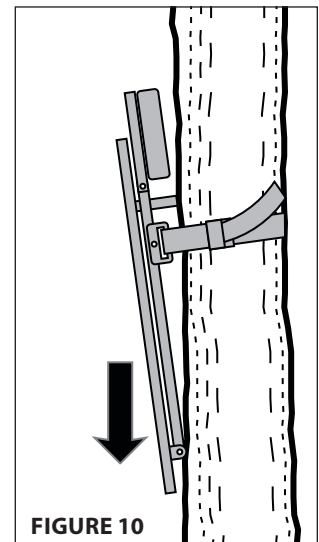

FIGURE 10
d. While platform is still folded up, push treestand in a downward direction to further tighten strap. **SEE FIGURE 10**